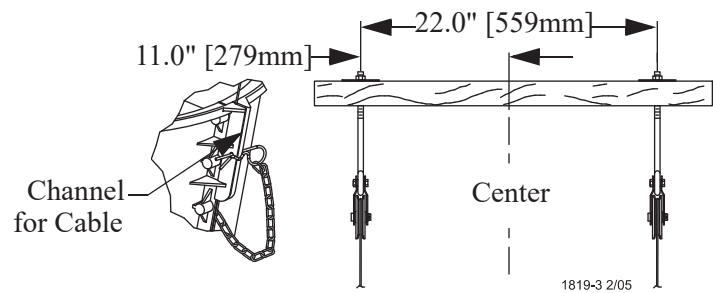

Figure 23. Pulley Installation
8. Install two pulleys to either a 2" x 8" [50x200 mm] board that will span at least 3 rafters or a 3/8" [9.5 mm] thick steel plate welded to two pieces of angle iron that are long enough to span at least 2 rafters. Install the pulleys directly above the feeder line where the hopper is to be located. The pulleys should be spaced 22" [559mm] apart (11" [279 mm] from the center of the hopper in both directions). (See Figure 23.)